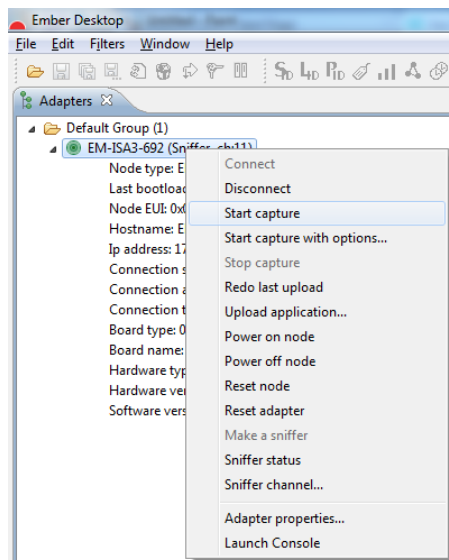

Figure 22. Selecting Start Capture in Ember Desktop
4. Select “Start Capture”, as shown in Figure 22 .